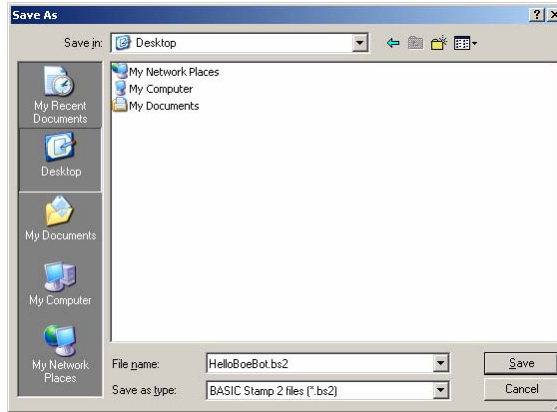

Figure 1-39
- ✓ Enter the name HelloBoeBot.bs2 into the File name field near the bottom of the Save As window as shown in Figure 1-39.